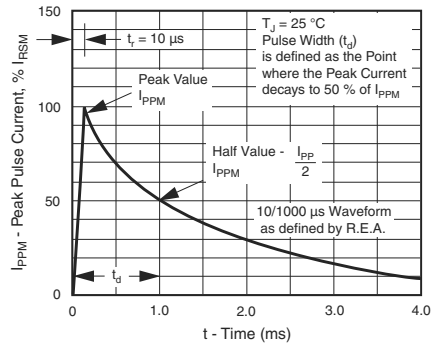
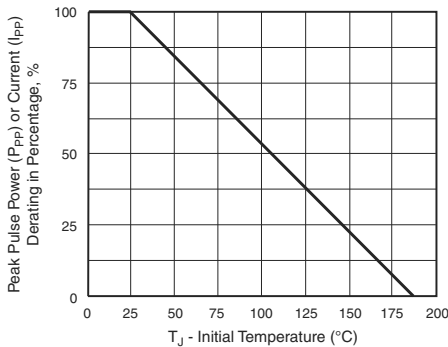

Figure 3. Pulse Waveform
Figure 2. Pulse Power or Current vs. Initial Junction Temperature
- (1) Pulse test:  $t_p \leq 50\text{ ms}$
- (2) Surge current waveform per fig. 3 and derated per fig. 2
- (3) All terms and symbols are consistent with ANSI/IEEE C62.35
- (4) **TMPG06-6.8(A) thru TMPG06-9.1(A) not recommended for new design due to product be end of life on 31-May-11 per PCN-PDD-008-2010 Rev. 0**